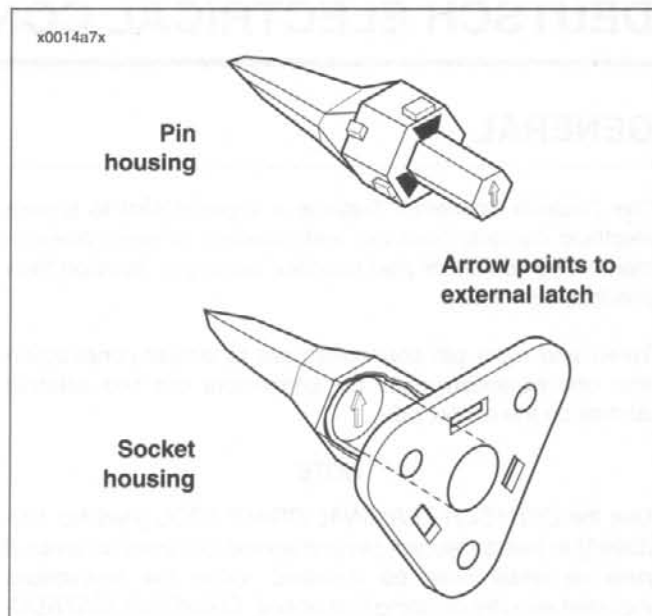

Figure 7-80. 3-pin Locking Wedge Orientation
- The conical secondary locking wedge of the 3-pin connector must be installed with the arrow pointing toward the external latch. See Figure 7-80.